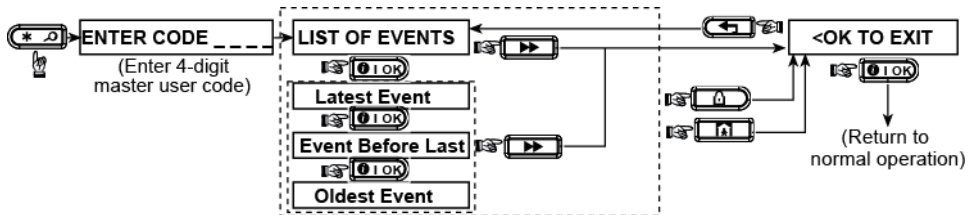

Figure 9. Using the Event Log
**Should you wish to get an overall view of using the log, refer to Figure 9. The flow chart may even serve as your only guide to using the event log, instead of going through the written step-by-step procedure.**